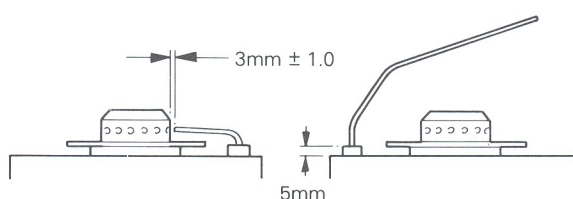

FIG. 15
4. Fit new electrode in reverse order, set gap and position (See Fig.15).
4. Fit new sensing probe in reverse order, set gap and position (See Fig. 15).